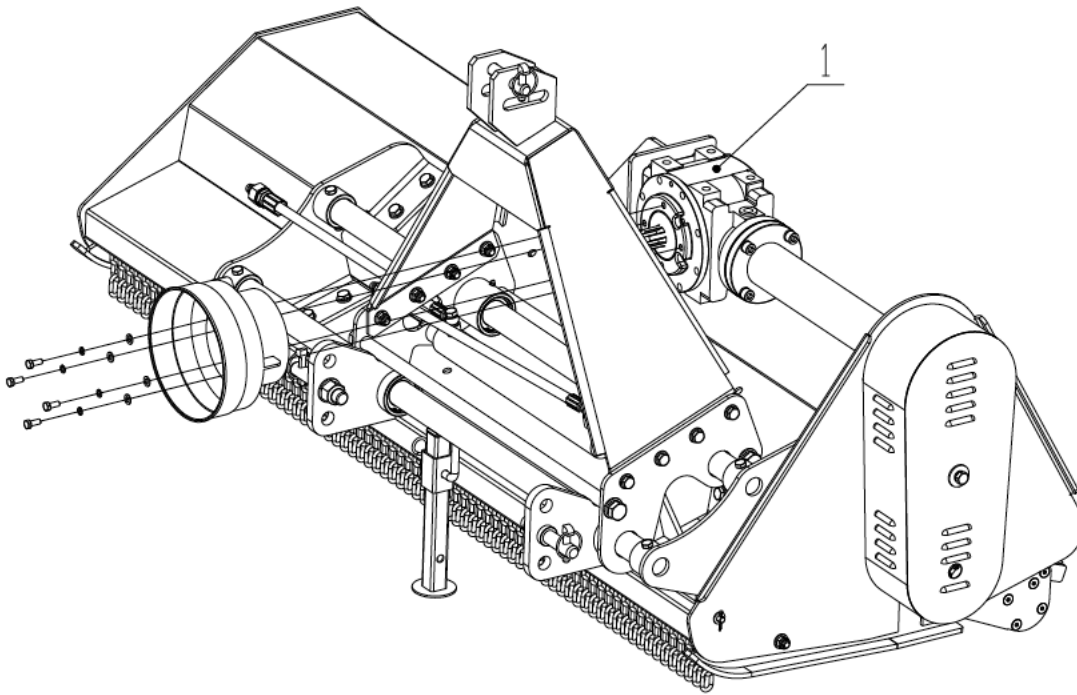

FIGURE 9: Installing PTO protective cover and Fittings
Note: If the gap shown in figure 9 does not meet the installation requirements of hitch bracket weldment, just remove the oil inlet pipe and oil outlet pipe to release the pressure in the cylinder.
Fill the item 1 with proper amount of gear oil in figure 9 before operation.